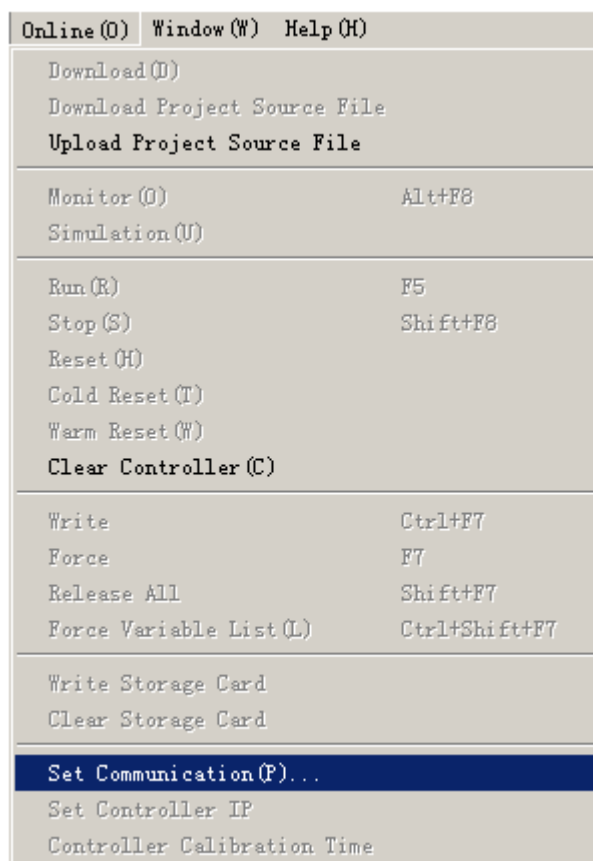

Figure 4-26 Online Menu
Step 1. Select [Online]-[Set Communication] in the menu bar of AutoThink software, as shown in Figure 4-26.